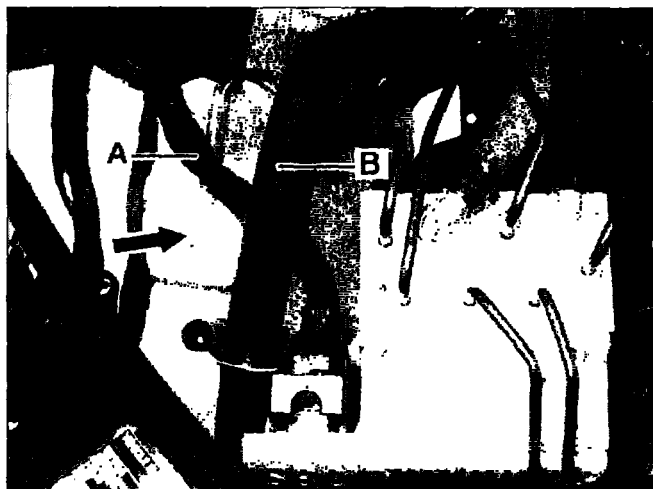

Figure 25
- Ensure wiring harness (A, Figure 25) and water hose (B, Figure 25) are not touching each other.
- Ensure tightening torque on ground terminal stud (arrow, Figure 25) is **between 7 and 10 Nm**.